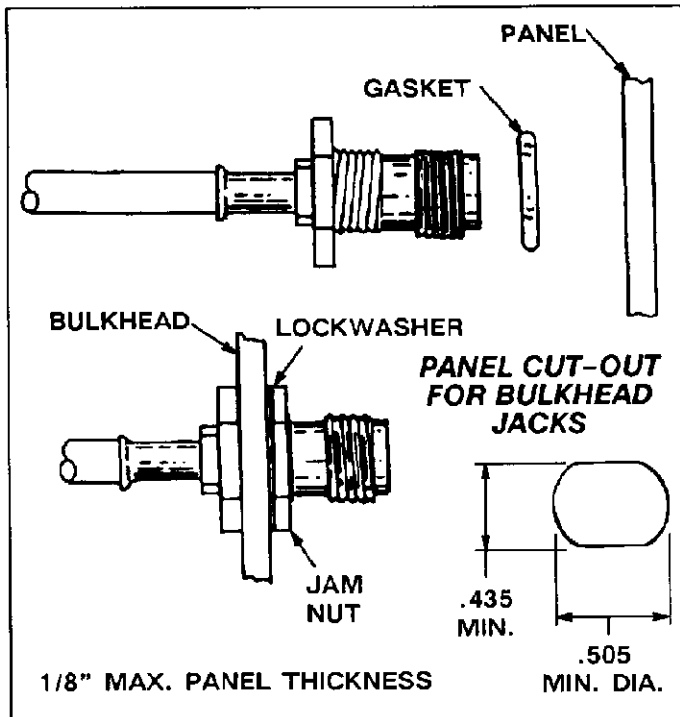

Fig. 13
4. For bulkhead jacks, slide gasket over bulkhead jack and press into recess in jack. See Figure 13.
5. Insert jack through hole in panel. Use dimensions shown in Figures 13 and 14 for cut-out. See Paragraph 7 if panel insulating bushing is to be used.